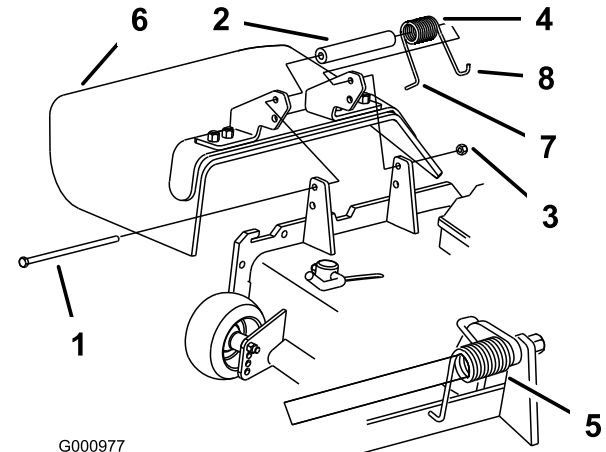

Figure 98
1. Remove the locknut, bolt, spring and spacer holding the deflector to the pivot brackets (Figure 98). Remove the damaged or worn grass deflector.
Note: Make sure the **L** end of the spring is installed behind the deck edge before installing the bolt as shown in Figure 98.
3. Install the bolt and nut. Place the **J** hook end of the spring around the grass deflector (Figure 98).